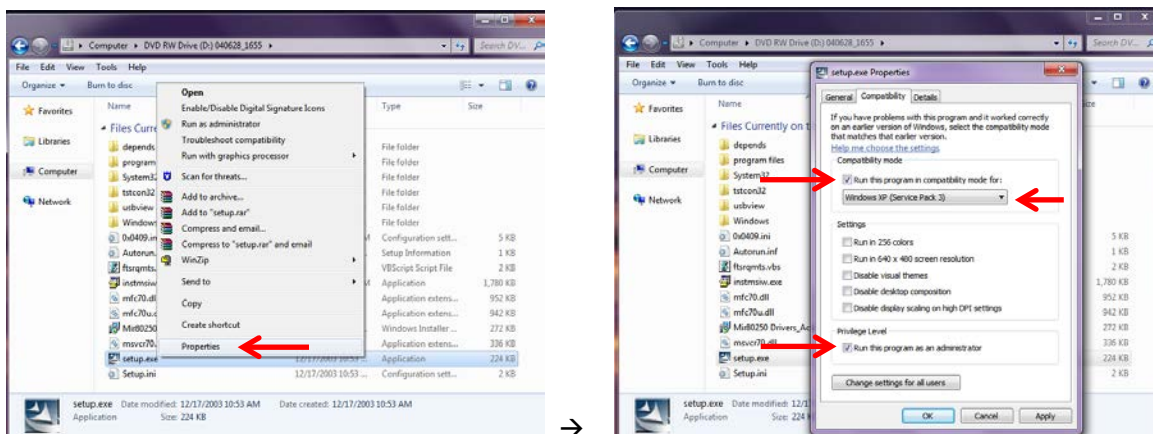

Figure 11: Run Active X Installer
2. Right click the setup.exe application and choose "Properties" per Figure 11. Check the box to install the software in compatibility mode and ensure Windows XP (Service Pack 3) is selected. Check the box to run as administrator, and then click "OK".